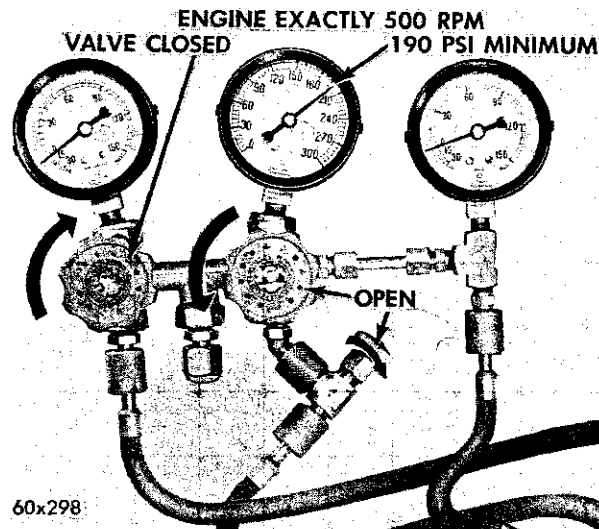

Fig. 22—Compressor Test Pressures
(2) Slowly close the left-hand gauge valve. Refer to Figure 22. All air delivered by the compressor will now be discharged through the metering orifice in the test cap. The pressure registered at the discharge gauge should build up to at least 190 psi.
(3) The load on the compressor may affect engine speed. If necessary, readjust the engine speed to exactly 500 rpm. The discharge pressure should build up to a minimum of 190 psi.
(4) Open the left-hand gauge valve momentarily to allow the pressure to drop. Then close the valve to make sure the pressure again builds up to a minimum of 190 psi with the engine operating at 500 rpm.